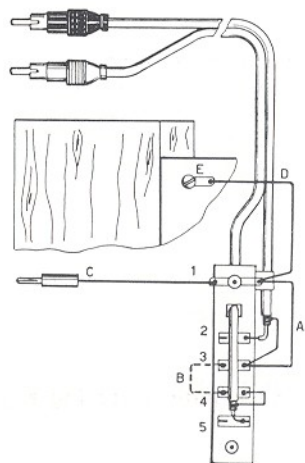

Fig. 6. Wiring diagram for pick-up output.
6. A ground lead should connect the metal part of the arm to lug 1 (see Fig. 6).
The TD-150 AB and A models are wired at the factory according to Fig. 6.